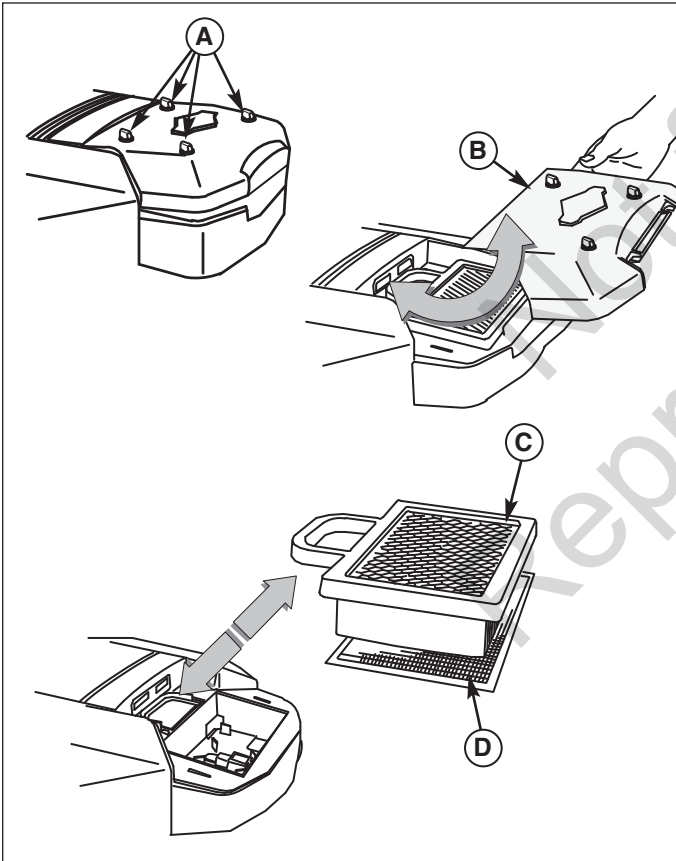

Figure 25. Air Filter Assembly
1. Unscrew the four knobs (A, Figure 25) by turning counterclockwise.
2. Remove the cover (B). Remove the filter (C) and pre-cleaner (D).
3. Install the pre-cleaner (D) with the mesh side up. Install the filter (C) as shown.
4. Install the cover (B) making sure the tabs are inserted into their slots. Secure by turning screws clockwise until snug.